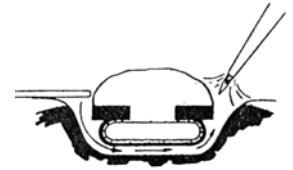

Fig. 15
17. Apply flux to the attachment and the casting. Evenly heat both components too be soldered. The two "parent" metals to be soldered should be hot enough so that when the solder touches them it melts. The torch does not melt the solder. If the metal casting and attachment are not hot enough to melt the solder remove the solder, continue heating, and then re-introduce the solder. At the correct temperature the solder will flash all the way through the joint. Position the torch flame on one side and the solder on the other. Draw the solder completely around the attachment (Fig. 15). Allow to bench cool.